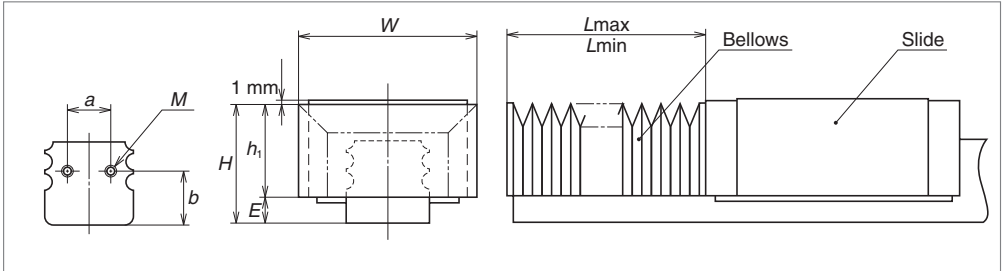
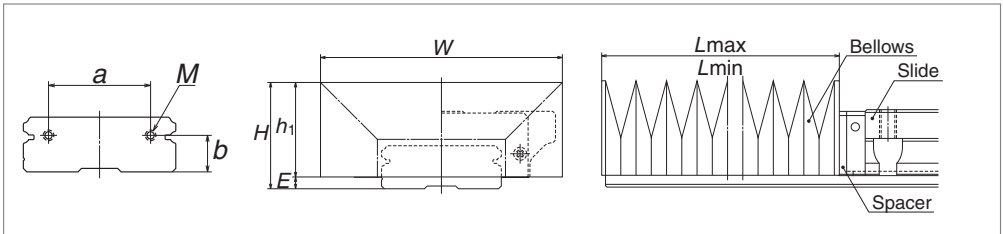

Fig. 6.8
Fig. 6.9
② LA and LW Series
* Installation in the ball slide (Fig. 6.8 and Fig. 6.9)